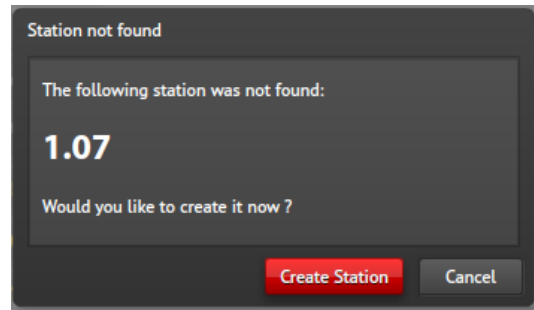

Figure 120. Station Not Found
- a prompt to add the station to the configuration if the station is not found (see **Figure 120**).